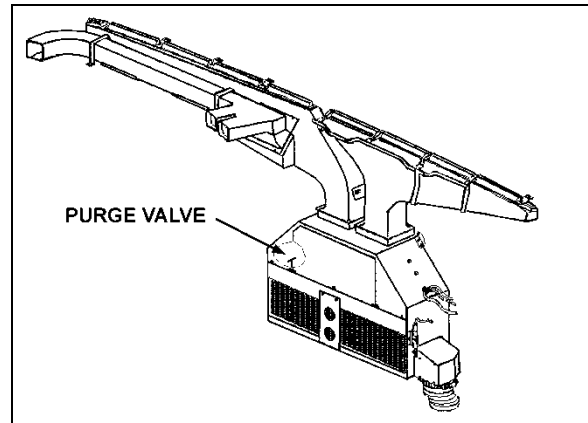
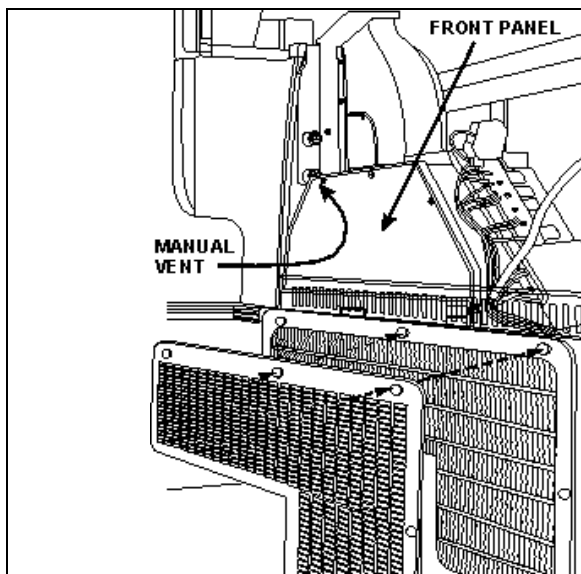
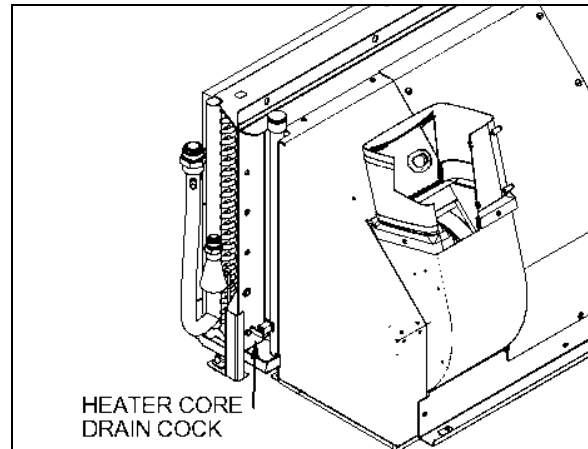

FIGURE 89: DRIVER UNIT AIR MIXING BOX 22171PV
FIGURE 88: DRIVER'S HVAC/DEFROST UNIT
FIGURE 94: HEATER CORE DRAIN COCK LOCATION
Fresh air is taken from behind the R.H. side headlights assembly (H3 series) or from a plenum underneath the front service compartment (X3 Series) and enters the mixing box through a ON/OFF damper. Return air is taken through the right console into the mixing box (Figure 89). Mixed air goes through cooling and heating coils, fans and discharge ducts.
4. From inside of vehicle, remove the two finishing panels in front of unit. Remove the three screws fixing the unit front panel. Open the purge valve located inside the driver unit (Figure 89). If present, open the manual vent located inside the HVAC unit, on the driver's side (Figure 88) to ensure an efficient draining.
4. Open drain cock in bottom of heater core (Figure 94) you can unfasten a hose connection on top of heater core in order to allow air to enter while draining. The main heater core drain cock is located in the evaporator compartment. To access the valve, open baggage compartment door located in front of the evaporator compartment (L.H. side). Open the evaporator compartment access panel.
Whenever the heating system has been drained and refilled, or the system has run low on coolant and coolant has been added, it is necessary to bleed air from heating system. Locate the purge valve illustrated in Figure 89 & Figure 94, and open them momentarily until no air escapes from the lines. If present, open the manual vent located inside the HVAC unit, on the driver's side (Figure 88).